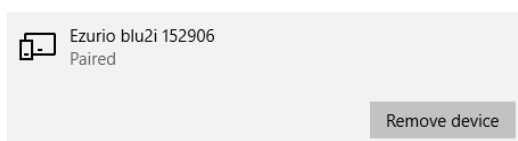

Figure 6.13 Bluetooth settings – device removal
The T-P23 units utilise a Bluetooth modem called Ezurio blu2i, the identifier (ID) of the unit should have been saved in the system configuration in the T-P2X Master software. However, if the PC is already paired with one or more T-P23 units, it may be confusing as to which is the one being connected. In this case it may be clearer if all the existing paired Ezurio units are removed by pressing on the icon and then “Remove device” (Figure 6.13) followed by a confirmation.